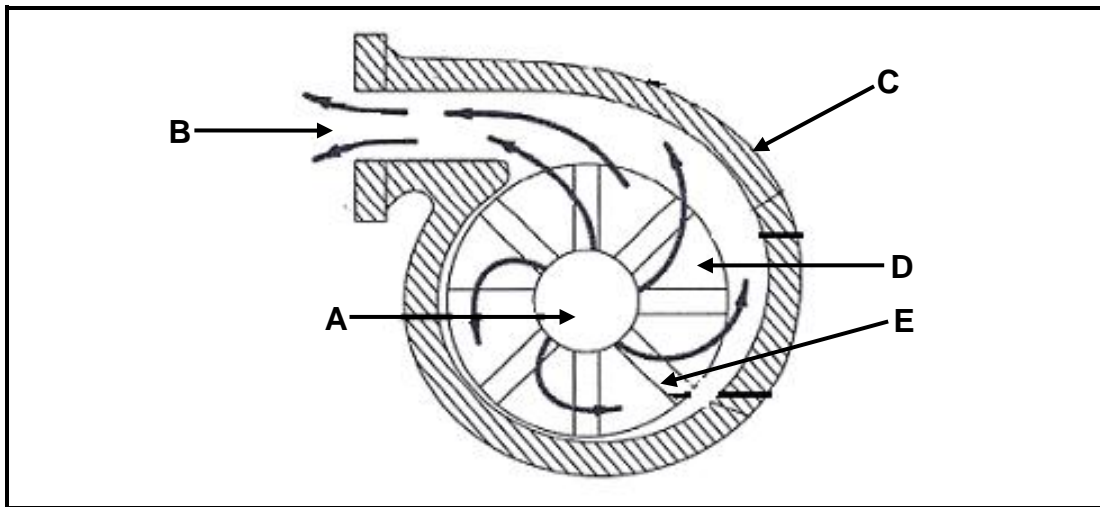

FIGURE 6.7
6.7 FIGURE 6.7 below shows a type of supercharger/blower. Answer the questions that follow.
6.7.1 Identify the type of supercharger/blower in FIGURE 6.7 above. (1)